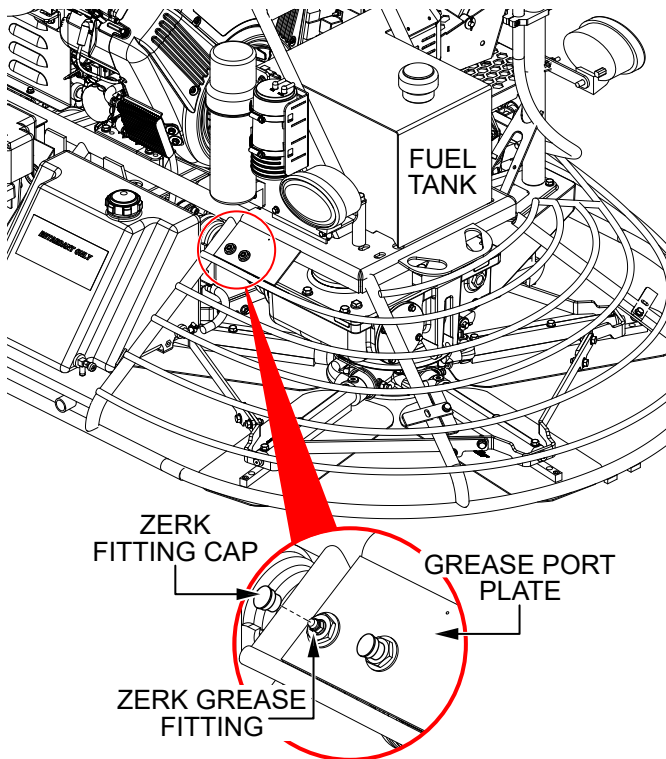

Figure 28. Pillow Block Bearing Lubrication
1. Locate the grease port plate (Figure 28) at the rear of the trowel, just behind the fuel tank. These two Zerk grease fittings lubricate the pillow block bearings.